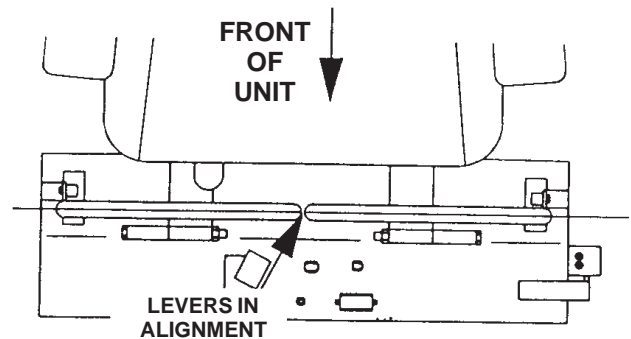

Figure 5
- If the ends of the levers hit against each other, while in the drive position (Fig 5) (levers rotated in as far as possible) make adjustments by moving the levers outward to the neutral lock position and carefully bend them outward. Move them back to the drive position and check for clearance. Repeat if necessary.